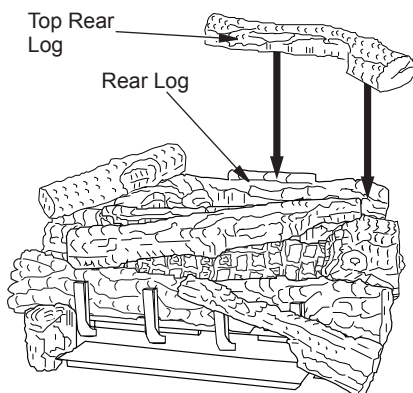

Figure 48 - Installing Top Rear Log
12. Place the top rear log (18" D-071, 24" & 30" D-045) onto the rear log as shown. The rear log has a projection that will fit into the recess area on the bottom of the top rear log (see Figure 48).